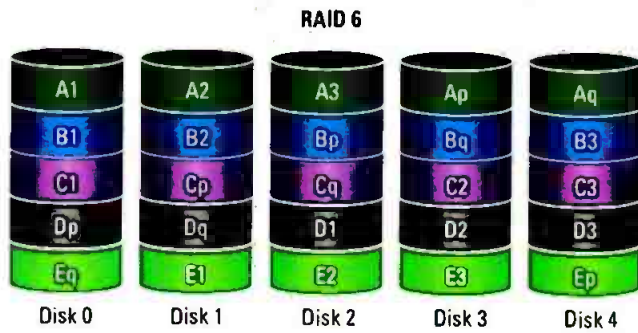

Figure 4. RAID 6 uses two parity blocks per stripe, so it can survive the loss of two disks.
- **RAID 6.** RAID 5 can withstand a loss of a single disk. RAID 6 uses two parity blocks per stripe instead of just one, allowing it to survive the loss of two disks. Even if a disk goes down during a rebuild, no data is lost. (See Figure 4.)